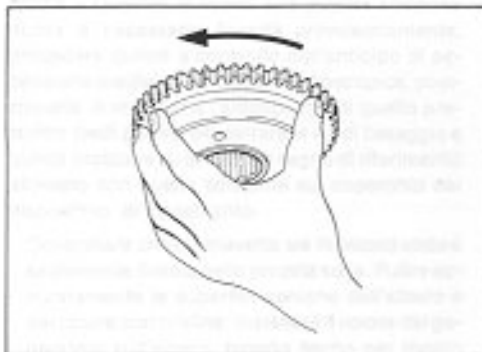

Fig. 122
L'ingranaggio deve essere ruotato in senso orario (visto dall'alto) (Fig. 122).
- The rollers, the plungers and the springs should be inserted in the starting clutch by means of a small screwdriver. Having installed all the rollers, holding the clutch body horizontally, fit the gear slightly turning it to ease insertion. The gear should be rotated clockwise (as seen from above) (Fig. 122).